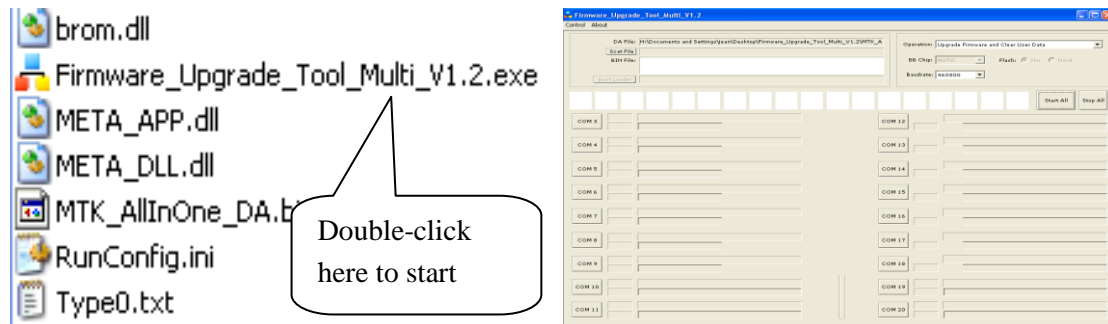

Figure 1: Start the tool
- b) Start the multi-ports tool as Figure 1: